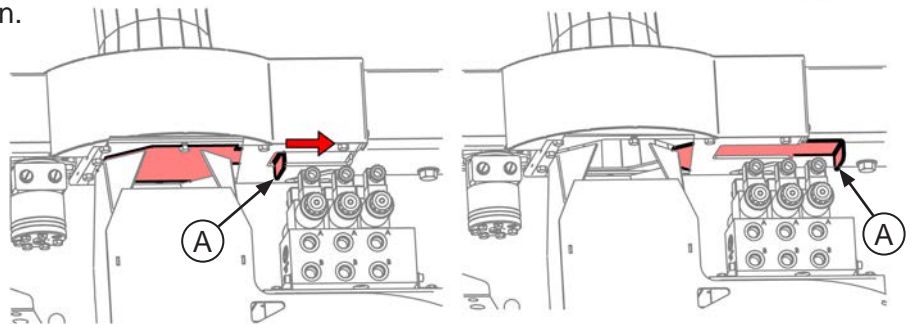

Fig.16
1. Close discharge chute gate, see Fig.16.